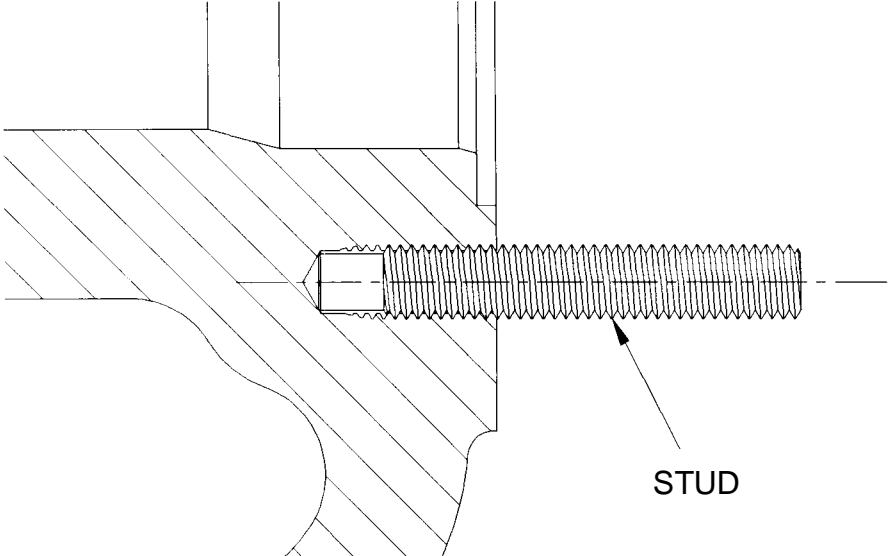

FIGURE 1-8: DOG POINT STUDS
- b. When studs are specified for cylinder applications, tighten stud-nuts to the same values as cap screws in similar applications. Reference Figure 1-8: